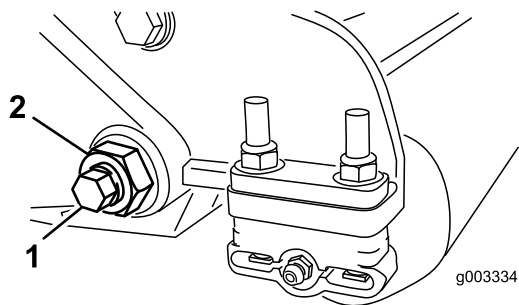
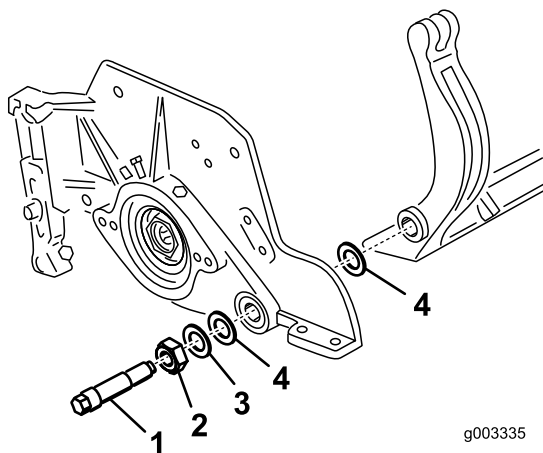

Figure 30
Figure 31
3. On each side of the machine, loosen the lock nut securing the bedbar bolt (Figure 30).
4. Remove each bedbar bolt allowing bedbar to be pulled downward and removed from machine bolt (Figure 30). Account for 2 nylon and 1 stamped steel washers on each end of bedbar (Figure 31).
2. Secure bedbar to each side plate with bedbar bolts (nuts on bolts) and 6 washers. A nylon washer is to be positioned on each side of side plate boss. Place a steel washer outside each of the nylon washers (Figure 31). Torque bedbar bolts to 27-33 (37-45 N-m) . Tighten locknuts until the outside steel washer stops rotating and end play is removed but do not overtighten or deflect side plates. Washers on inside may have a gap.